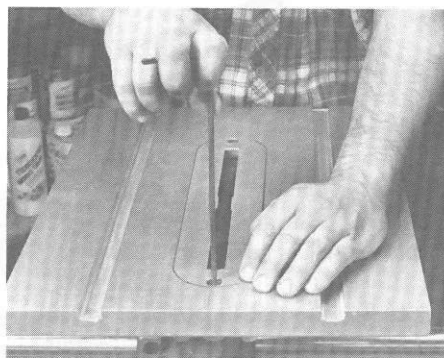

Figure 11. Installing the table insert.
5. Install the table insert in the table recess and start the screws. With a 5/32" Allen wrench, tighten the **rear** screw. The front of the insert will be sprung slightly above the table. Level the insert by placing your hand on the front of the insert and slowly turning the **front** screw until it draws the front of the insert flush with the worktable surface. (See Figure 11.) Then repeat for the rear screw.